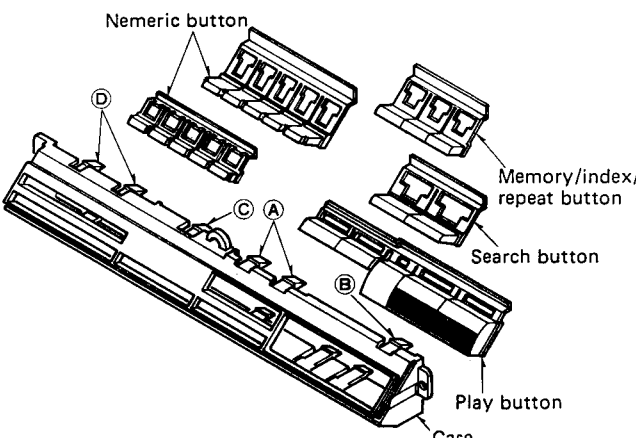

Fig. 4
2. Remove the 3 setscrews [Fig. 4 : ⑥ ~ ⑧] of the reinforcement plate.
3. Remove the 3 setscrews [Fig. 4 : ⑨ ~ ⑪] of the keyboard/display P.C.B., then the keyboard/display P.C.B. can be removed.